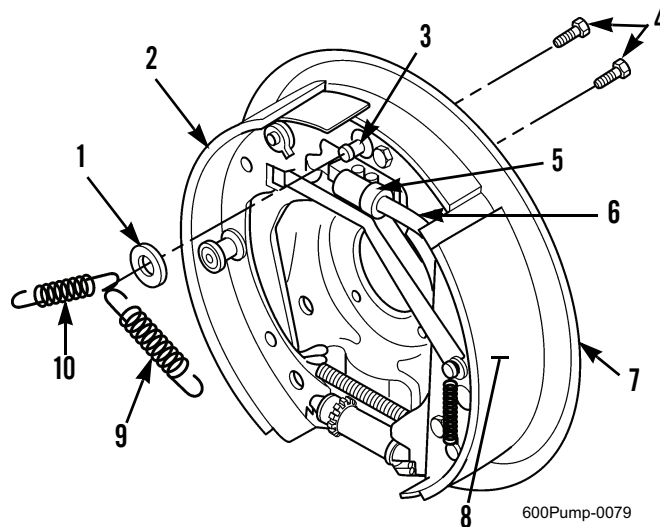

Figure 3. Wheel Cylinder.
6. Disconnect flex brake line (Figure 2, Item 11) from wheel cylinder (Figure 3, Item 5). Install temporary plug in flex brake line. Remove wheel cylinder.
1. Remove plug from flex brake line (Figure 2, Item 11) and connect flex brake line to wheel cylinder (Figure 3, Item 5).
2. Position wheel cylinder (Figure 3, Item 5) on backing plate (Figure 3, Item 7) with wheel cylinder push rod (Figure 3, Item 6) engaged in front brakeshoe (Figure 3, Item 8). Install two new capscrews (Figure 3, Item 4) with integral lock-washers and tighten to 168 +/- 17 lb-in. (19 +/- 1.9 Nm).
3. Install washer (Figure 3, Item 1) on anchor pin (Figure 3, Item 3).
4. Install front shoe spring (Figure 3, Item 9) on front brakeshoe (Figure 3, Item 8) and anchor pin (Figure 3, Item 3).
5. Install rear shoe spring (Figure 3, Item 10) on rear brakeshoe (Figure 3, Item 2) and anchor pin (Figure 3, Item 3).